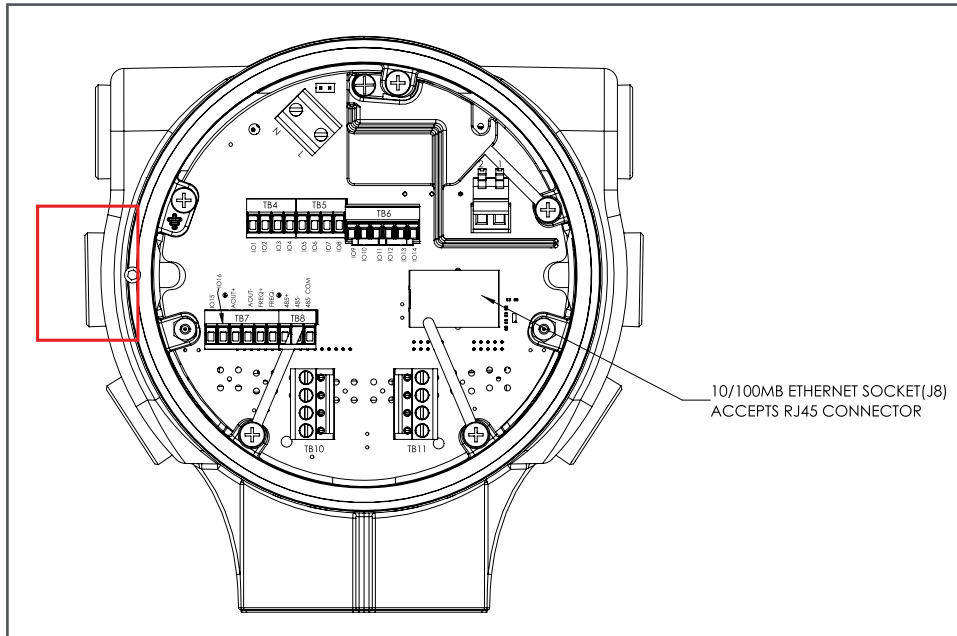

Figure 19: Wiring the Ethernet Port
3. Feed one end of the cable through the conduit hole and wire it to the terminal block TB7 as shown in Figure 19. Secure the cable gland.